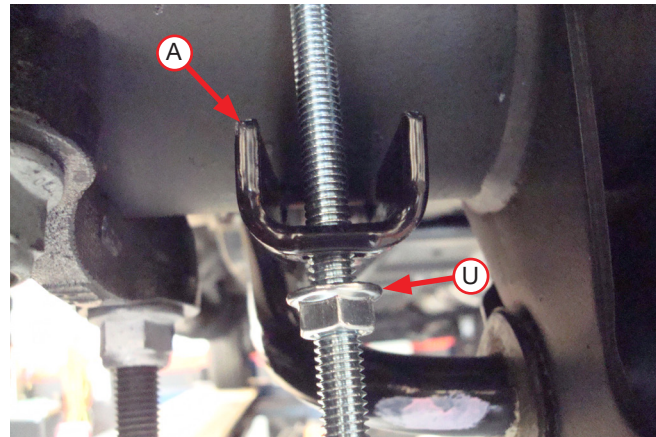

Fig. 31
If you have a sway bar, insert the carriage bolts through the clamp bar (A) as you set the assemblies into position over the axle (see Fig. 31).
8. If not already completed (sway bar noted earlier), set the lower clamp bars (A) over the carriage bolts located under the axle (Fig. 31). Attach with the 3/8" serrated flange lock nut (U). Evenly torque the lower clamp bar hardware to 16 lb.-ft. (22Nm).